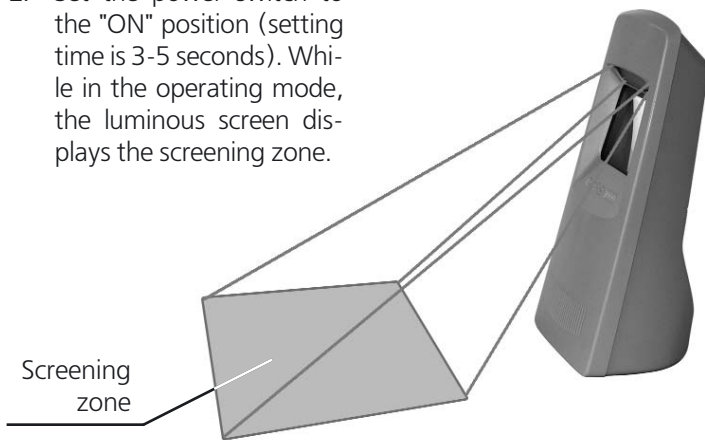

Fig. 2
3. Place the bank note within the screening zone as shown in Fig. 2 and compare the image displayed with the IR mark layout.